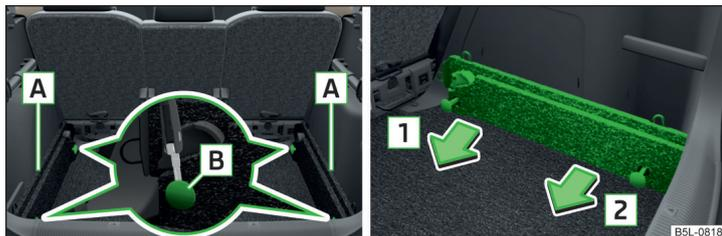

Fig. 107 Slacken check points/remove carrier rails
- › Undo the securing points **B** » Fig. 107 on the carrier rails using the vehicle key or a flat screwdriver.
- › Press the two securing points **B** » Fig. 107 on each carrier rail to the stop.